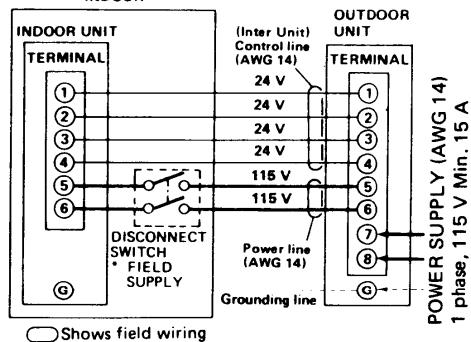

Fig. 8
- Refer to the wiring diagram in Fig. 8, which is labelled on the access panel.